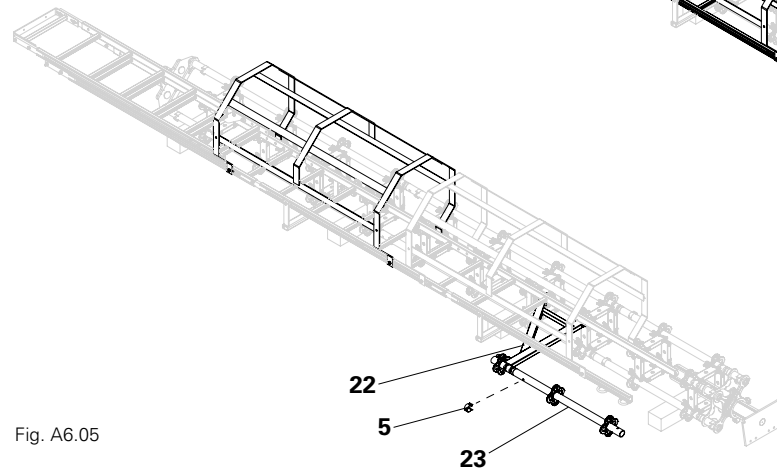

Fig. A6.05
6. Mount the Console Bracket UCM 75 (22) to the Heavy-Duty Prop HD. Insert the Top Standard UVH 100 (23) as a guardrail post into the Console Bracket UCM 75 (22) and secure it with locking pins  $\varnothing$  48/57 (5). (Fig. A6.05)
- Visual check on the Top Standard UVH 100 (23). The Top Standard UVH 100 and the Console Bracket UCM 75 must be tightly connected with locking pins  $\varnothing$  48/57 (5). (Fig. A6.05)